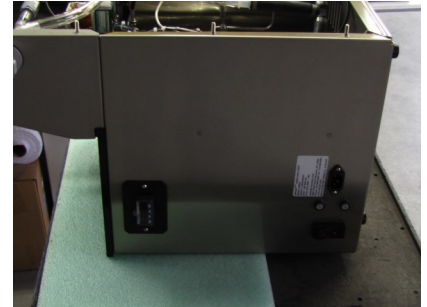

Figure 1
1. Start with turning the power OFF and unplugging the A2000 Fiber Analyzer. Lay the instrument on its face on a foam pad or other non-abrasive surface as shown in Figure 1. Remove the clear back panel.